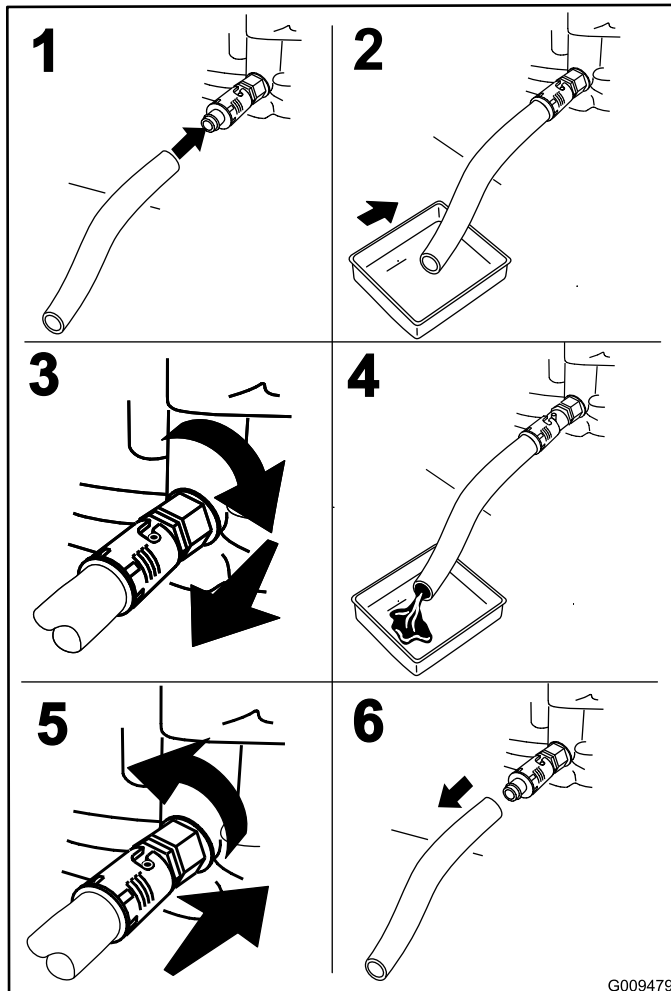

Figure 45
4. Stop the engine, remove the key, and wait for all moving parts to stop before leaving the operating position (Figure 45).